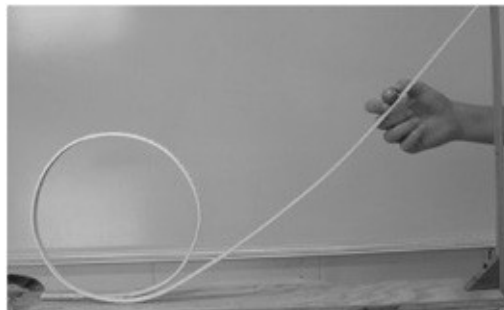

Figure 63-1 *Where must the ball be positioned to make it around the loop without falling?*
5. Align the track as shown in Figure 63-1. The loop should be as symmetrical as possible with the overall path making a vertical loop. Also, make enough separation between the part of the track going into and out of the loop, so there is enough clearance between the marble and the track.
2. Pick your starting point and observe what happens. Find the minimum point to consistently negotiate one loop. What happens to the marble if you release it at a point that is higher or lower than this minimum point? See Figure 63-1.